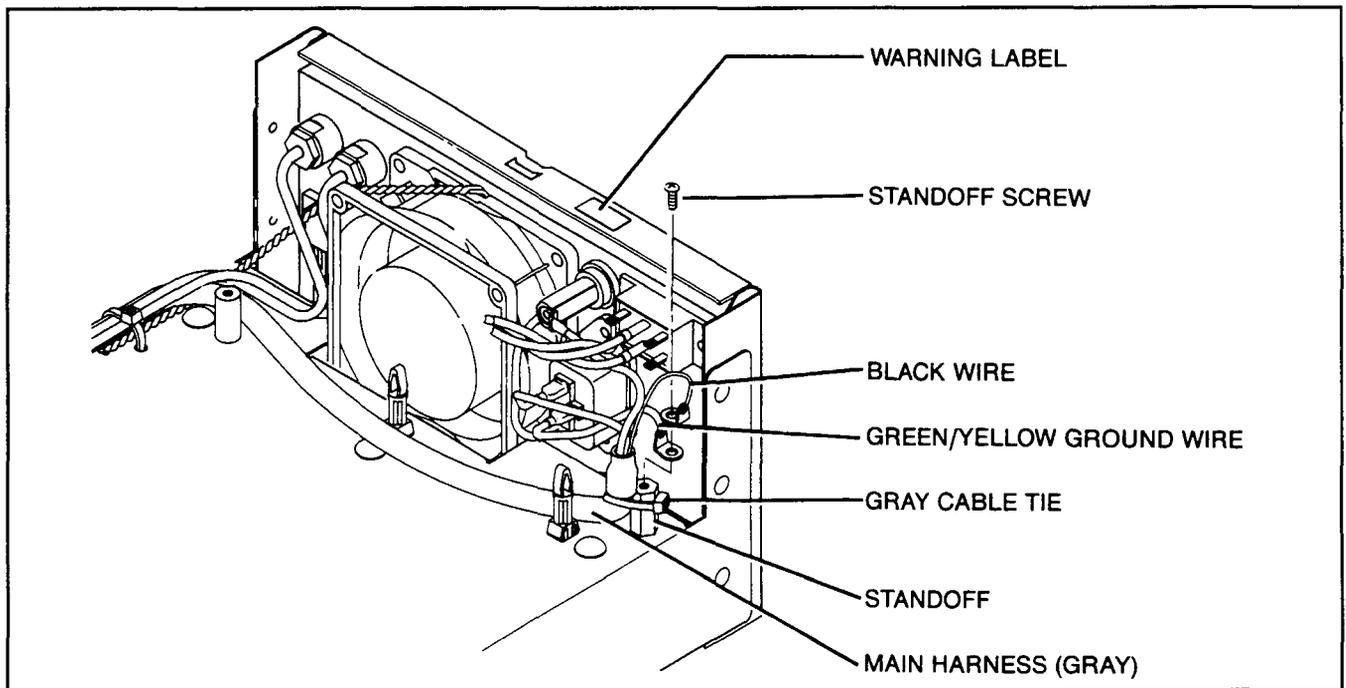

Figure 7-4. Parts Location (Shown with Power Supply Removed)
3. Refer to figure 7-4. Locate the ground wire. It has green insulation with a yellow stripe and is inside the rear panel in the right rear corner of the instrument beneath the red and silver warning label.